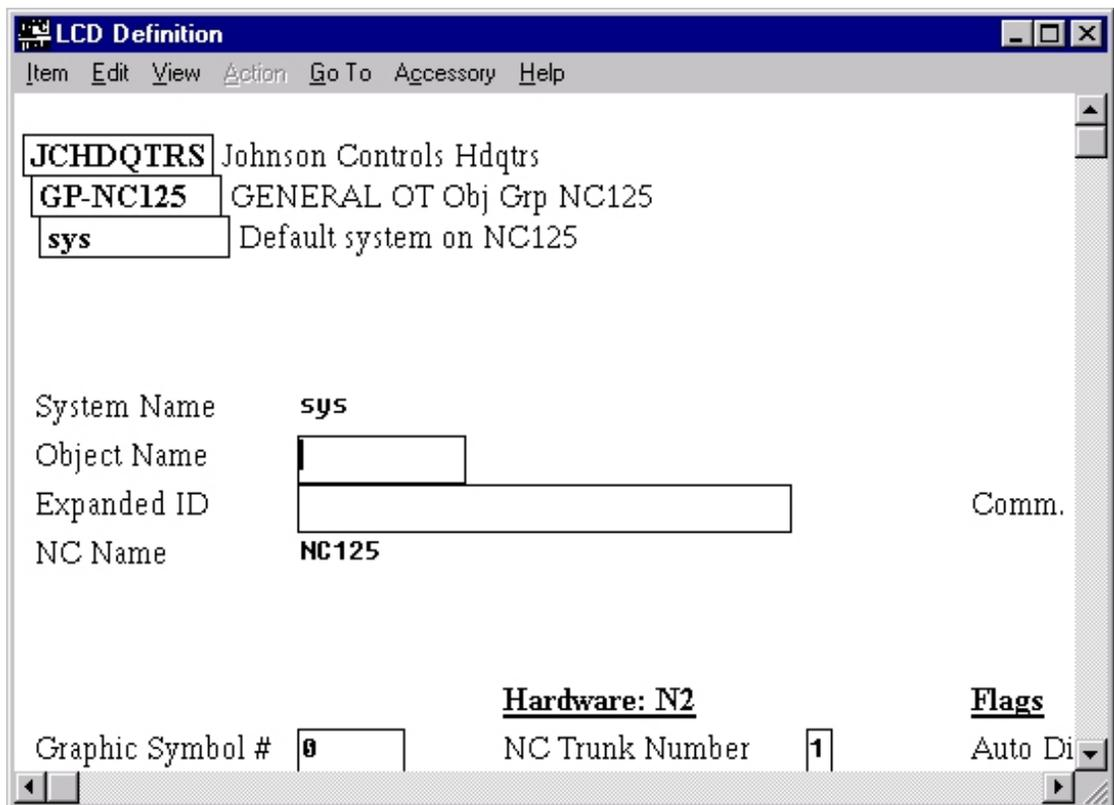

Figure 9: Lighting Control Device Definition Window
5. Highlight LCD, and click OK. The LCD Definition window appears (Figure 9).